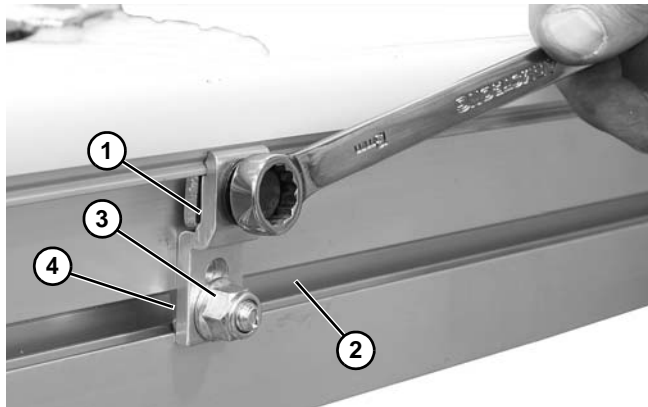

Figure 69
1. Install clip assembly (**Figure 69, item 1**) into side rail channel (**Figure 69, item 2**). The end clips should be no greater than 12" from the end of the conveyor.
*Make sure that the studs (**Figure 69, item 4**) rotate inside the channel and engage with the conveyor.*
2. Fasten clip (**Figure 69, item 1**) to conveyor with nut (**Figure 69, item 3**) on stud.